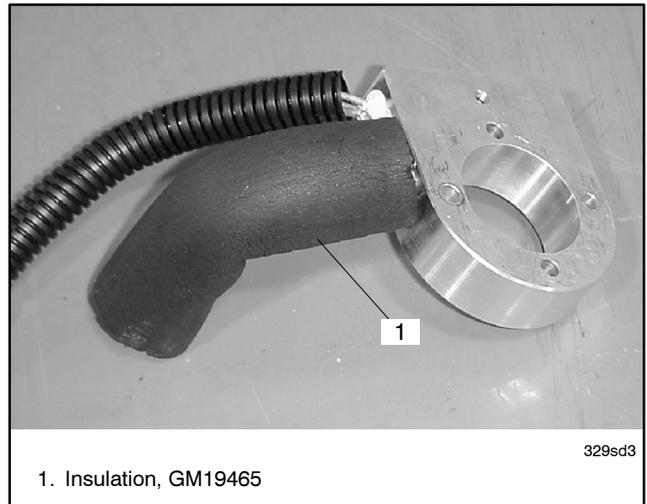

Figure 9 Breather Tube Insulation
3. Install the insulation, GM19465, over the breather tube. See Figure 9.